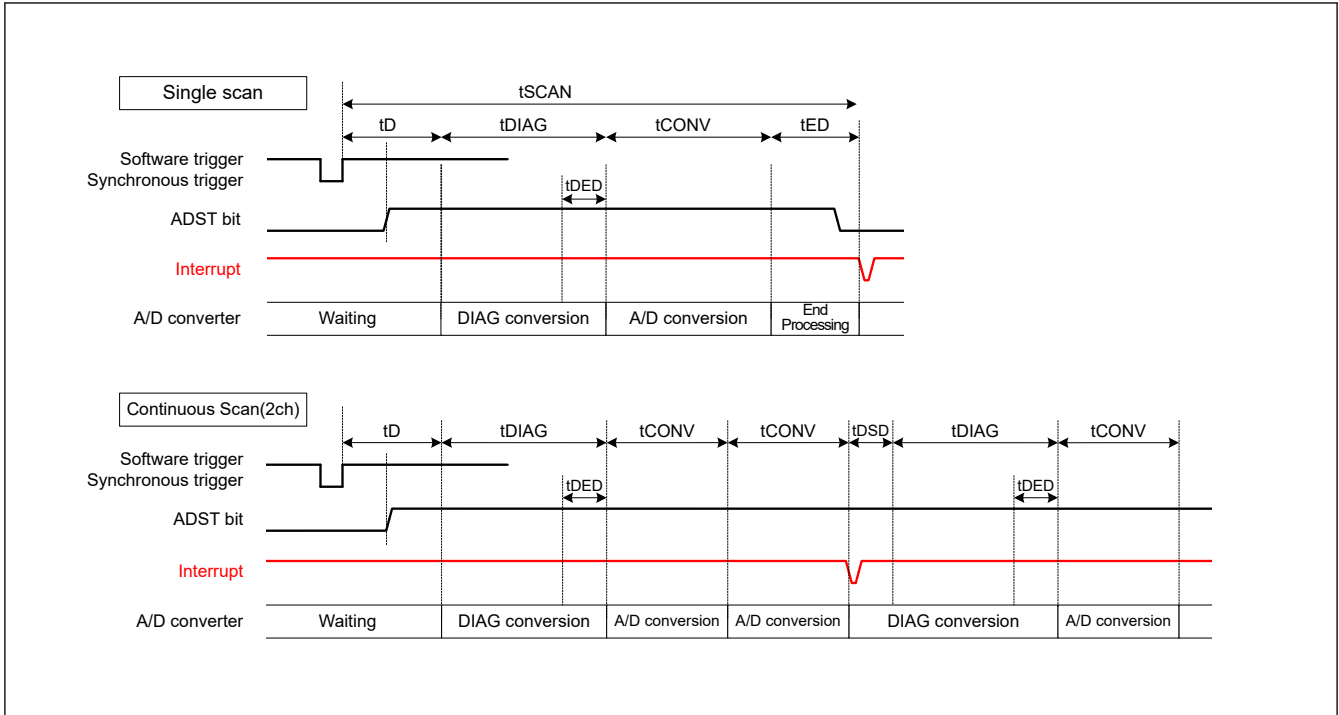
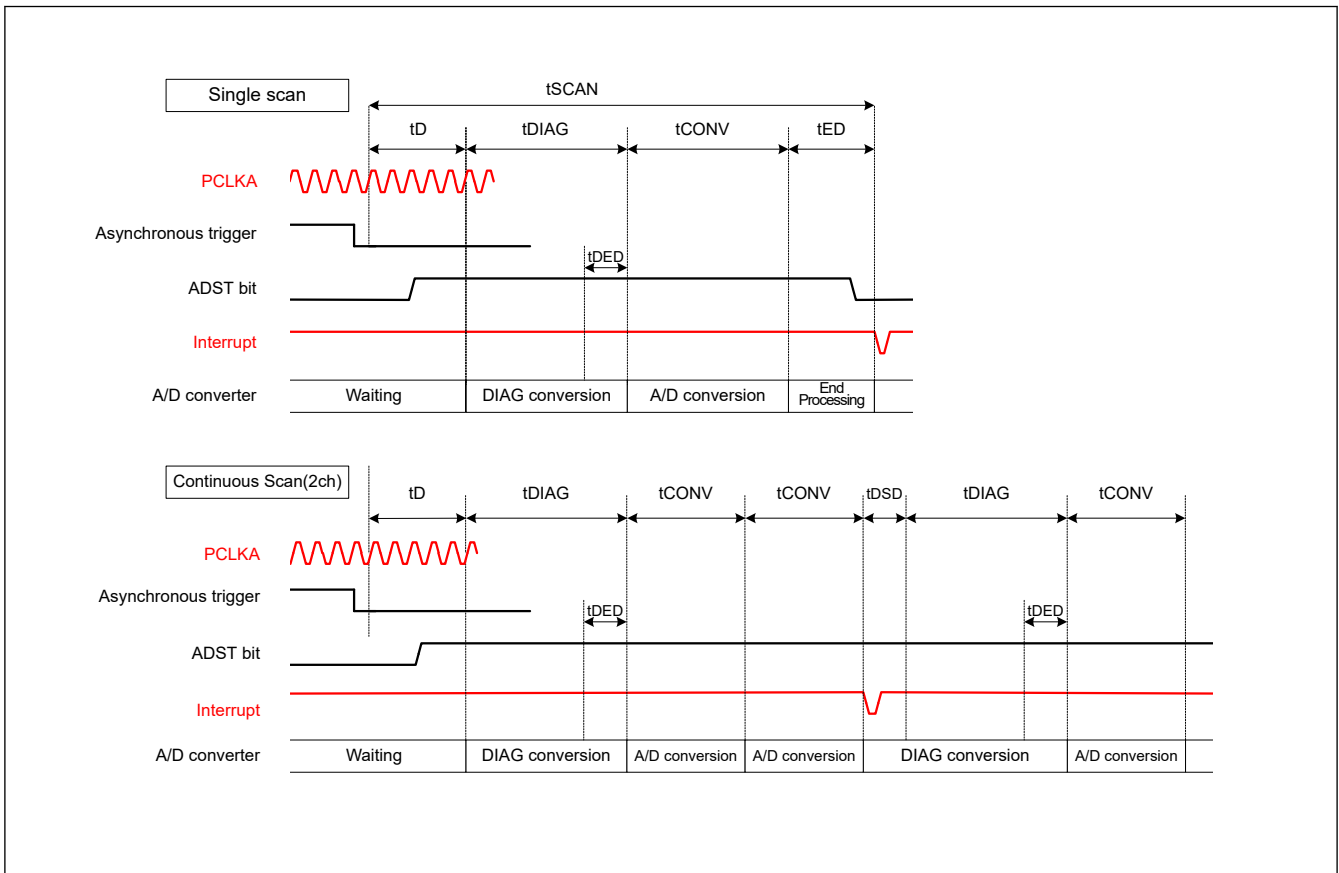

Figure 35.26 Scan conversion timing when activated by software or a synchronous trigger input (ELC)
Figure 35.27 Scan conversion timing when activated by an asynchronous trigger input (ADTRG0)
Figure 35.26 shows the scan conversion timing, in which scan conversion is activated by a software trigger or a synchronous trigger (ELC). Figure 35.27 shows the scan conversion timing, in which scan conversion is activated by an asynchronous trigger (ADTRG0). The scan conversion time ( $t_{SCAN}$ ) includes the start-of-scanning-delay time ( $t_D$ ), disconnection detection assistance processing time ( $t_{DIS}$ )\*1, self-diagnosis A/D conversion processing time ( $t_{DIAG}$  and  $t_{DSD}$ )\*2, A/D conversion processing time ( $t_{CONV}$ ), and end-of-scanning-delay time ( $t_{ED}$ ).
- Note 1. See Figure 35.26 and Figure 35.27 for an illustration of times  $t_D$ ,  $t_{SPLSH}$ ,  $t_{DIAG}$ ,  $t_{CONV}$ , and  $t_{ED}$ .